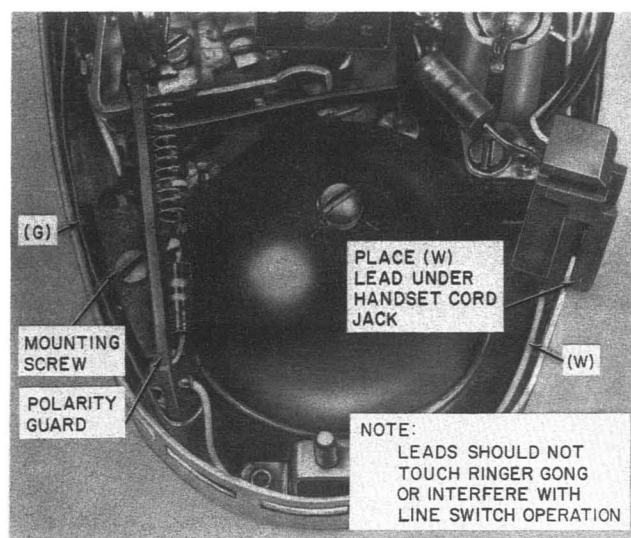

Fig. 13—Polarity Guard (840364426) Installed in 2700-Type Telephone Set
- (6) Dress leads as shown in Fig. 13.
- (7) Replace dial.
- (8) Replace housing.